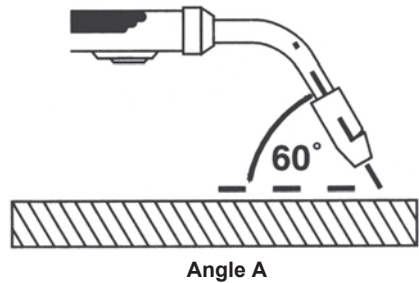

Figure 9. Torch Position, Angle A
1. Angle A (Figure 9) can be varied, but in most cases the optimum angle will be 60 degrees, the point at which the torch handle is parallel to the work piece. If angle A is increased, penetration will increase. If angle A is decreased, penetration will decrease also.